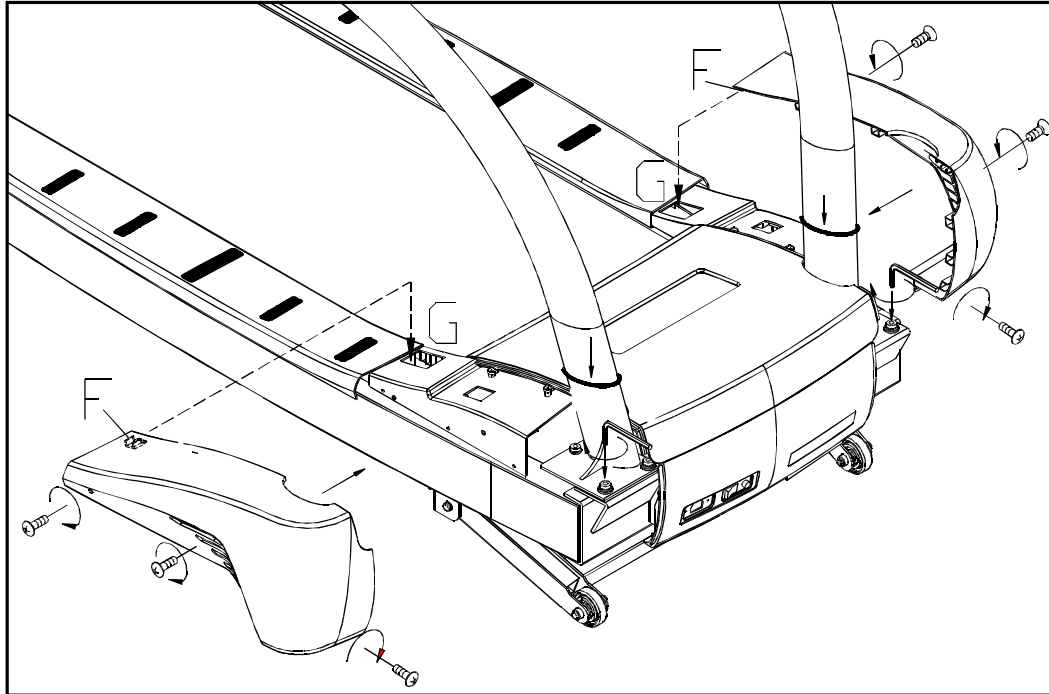

Fig.5
**STEP 5.** Use the ALLEN WRENCH WITH THE L-SHAPED HANDLE (6 mm) to securely tighten the pedestal screws in place; then put the side covers (both left and right) in place (FG) and secure them with the Phillips-head screws. Finally, set the waterproof rings in place near the hood. (See Fig. 5.)